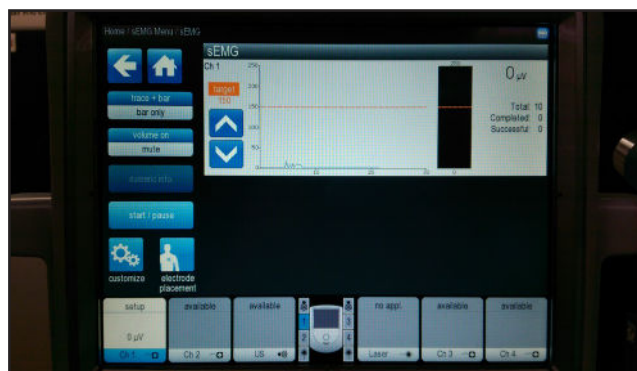

FIGURE 6
- Press the sEMG Button on Home Screen. Channel 1 should read 7 or less. See **Figure 6**.